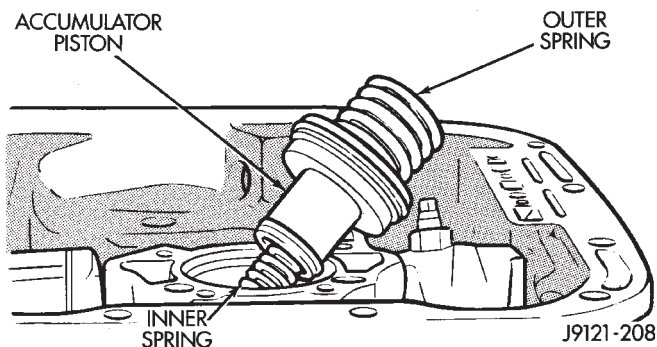

Fig. 16 Accumulator Component Removal—46RH
(17) Remove accumulator outer spring, piston and inner spring (Fig. 16). Note position of piston and springs for assembly reference. Remove and discard piston seals if worn or cut.